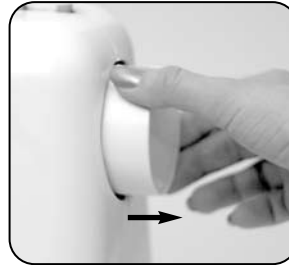

Fig. 1
1. To release the clutch for bobbin winding, pull out the handwheel until it clicks [Fig. 1].